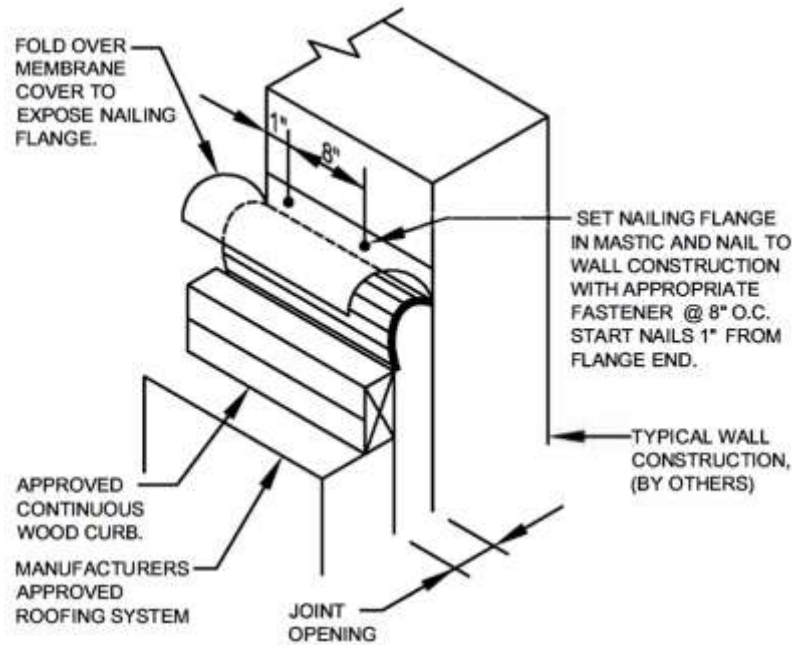

Figure 9
10. Set nailing flange in membrane compatible mastic and nail to wall construction with (1) fastener at 8" o.c. start nails 1" from flange end. **See Figure 9**